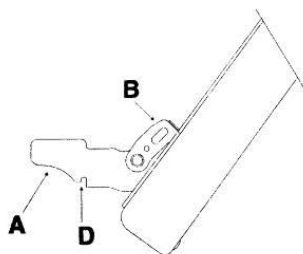

Fig 1
- Open the door completely and lift the 2 levers "B" (fig.1);